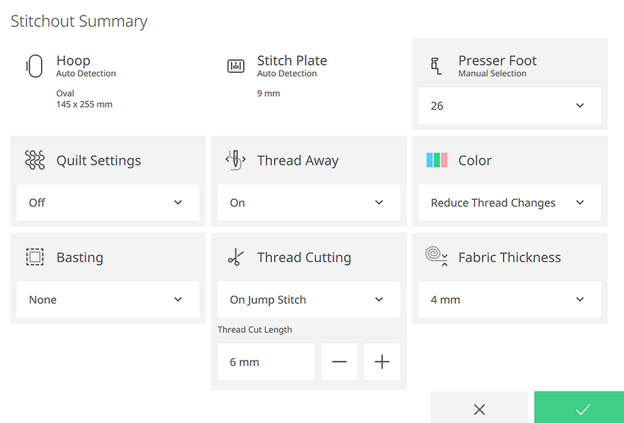

Fig. 26
21. In the Stitchout Summary (Fig. 26), select: